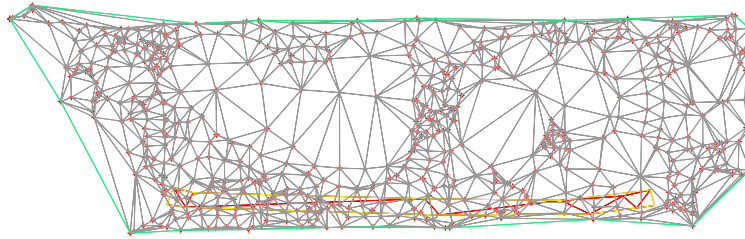

Figure 3-66 The EG surface created after adding the point group
5. Select the **_All Points** group and choose the **OK** button; the point group is added as the definition to the surface, as shown in Figure 3-66.